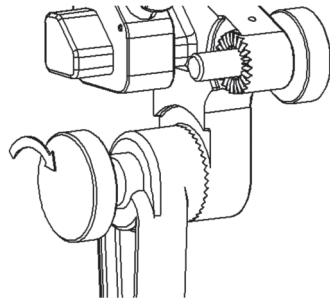

Figure 7
3. Position the Adult Radiolucent Horseshoe Headrest in desired orientation and turn the Swivel Adaptor torque screw clockwise until fully tightened (Figures 7 and 8)